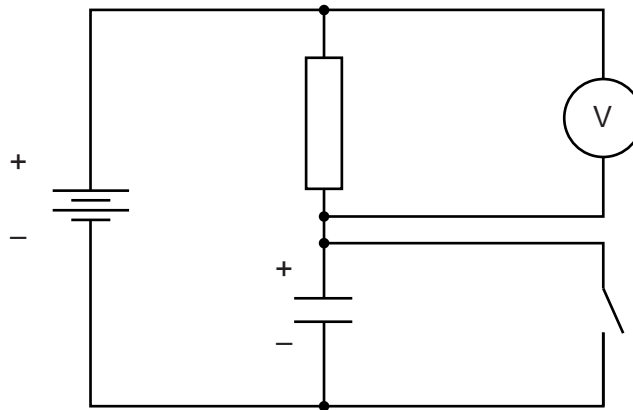

Fig. 3.1
Connecting leads to enable the Supervisor to set up the circuit shown in Fig. 3.1 (see Note 3).
4. At the changeover, the Supervisor should check that the apparatus is still set up as in Fig. 3.1.